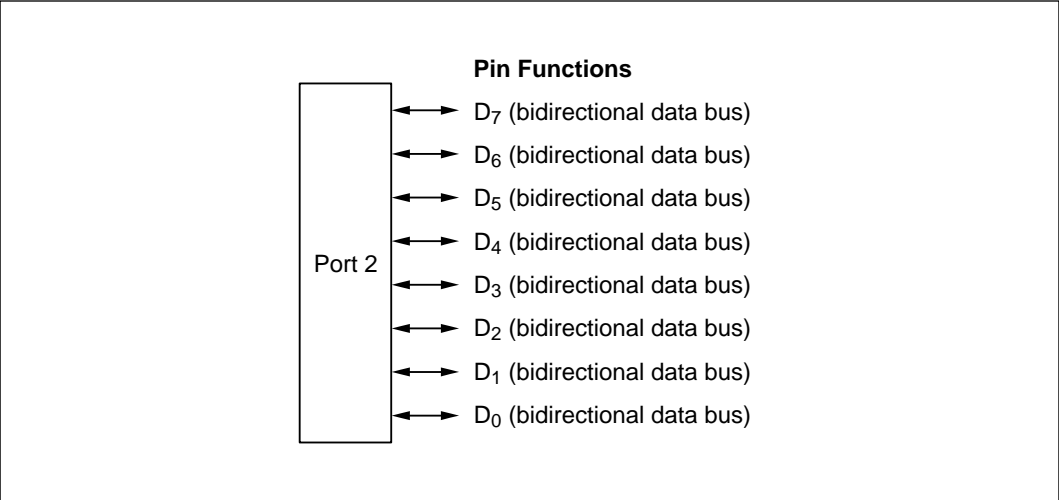

Figure 10-10 Pin Functions in Modes 1, 3, 4, 5, and 6
(1) Pin Functions in Modes 1, 3, 4, 5, and 6: The settings in P2DDR are ignored. Port 2 automatically becomes a bidirectional data bus. Figure 10-10 shows the pin functions in modes 1, 3, 4, 5, and 6.